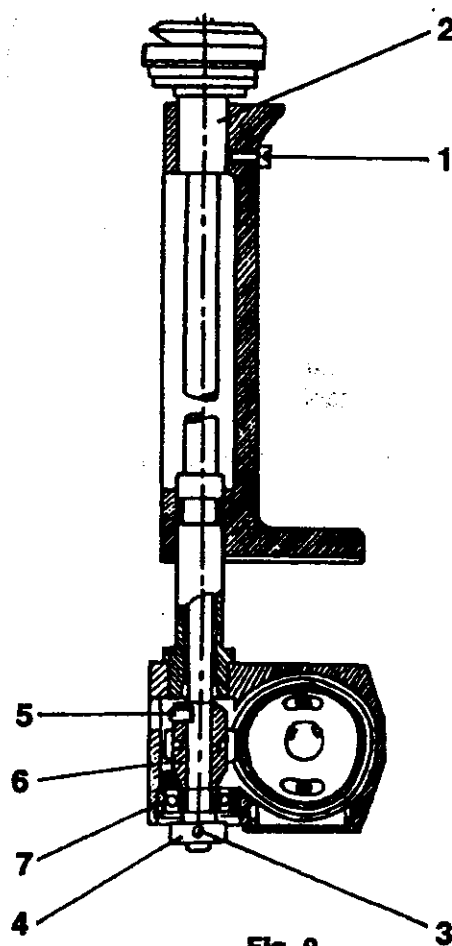

Fig. 9
4. To adjust hook height with respect to throat plate (Fig. 9)